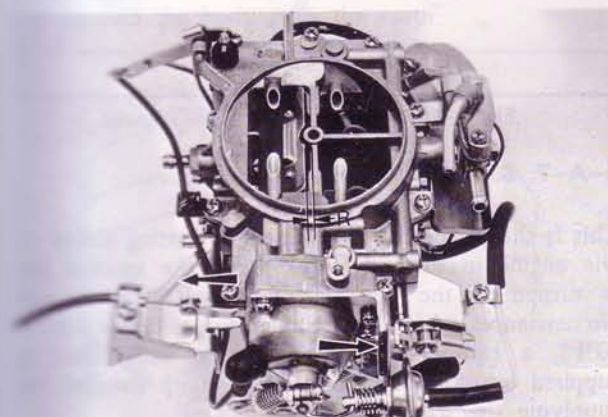

Fig. 4-11 Adjusting bimetal spring
2. Push the diaphragm plunger in fully and keep its position by wire as shown in Fig. 4-11.